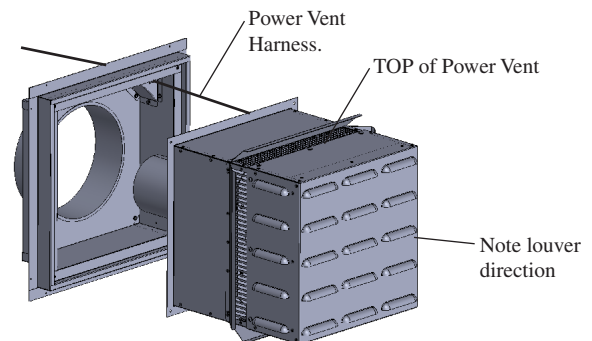

Figure 13f. Installation of Power vent harness.
Step 8: Install the Power Vent power harness. Hold the Power Vent in close proximity to the assembled Rough-in Kit. Plug in the Power Vent harness. See **Figure 13f**.